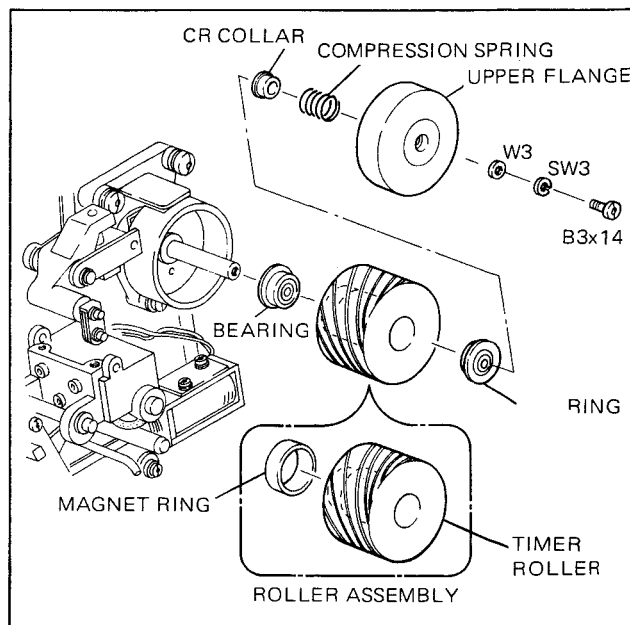

Fig. 3-59. Roller Assembly Replacement
1. Disassemble the timer roller as shown in Fig. 3-59, replace the required parts, and reassemble.